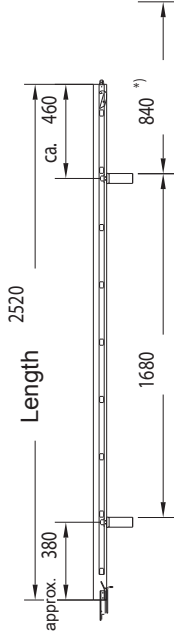

Fig. 9
- Length 2,240 mm: 8 kg (Fig. 9)